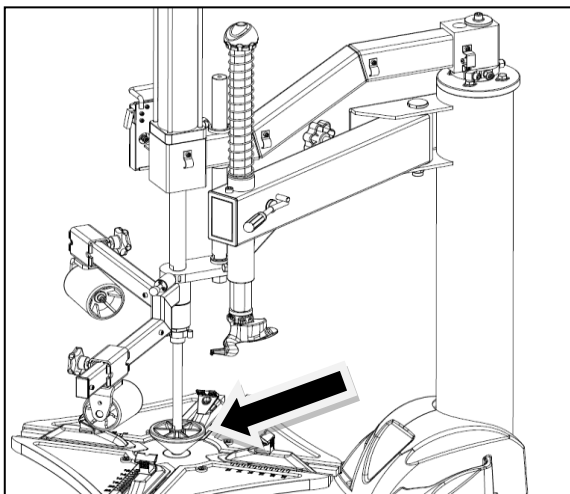

FIG12
2.8 adjusting the centering: like FIG12, install the centering pestle and put it over the center of turntable then tighten the locking block screw (FIG13-1) using 8# Allen key. And tighten the four pieces of fixed base screws (FIG13-2) and two pieces locking block screws (FIG13-3) using 18# spanner.